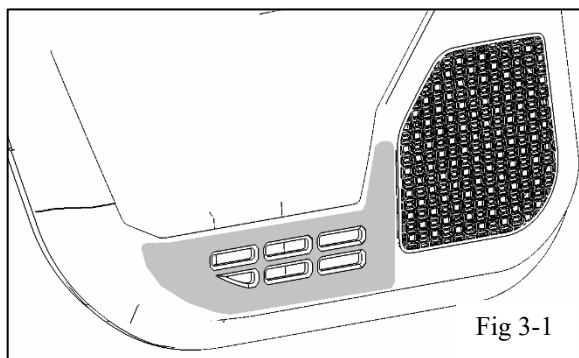

Fig 3-1
- (d) Use rubbing alcohol on a clean lint free cloth and scrub the surface of the door panel in the area shown. (Fig 3-1)